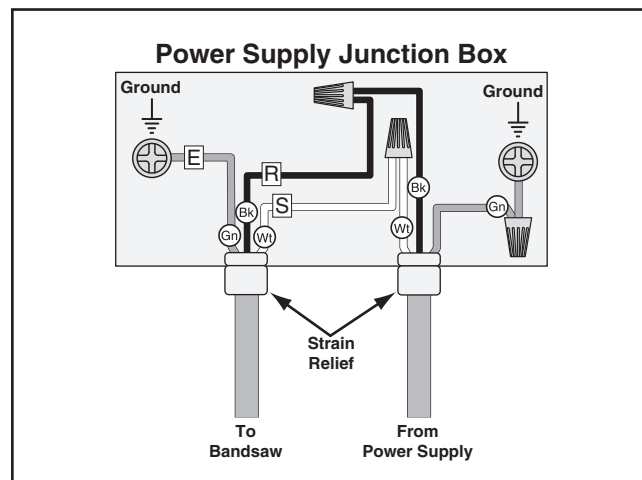

Figure 41. Incoming power cord connections.
5. Connect the incoming ground wire to the ground post, as shown in **Figure 41**.